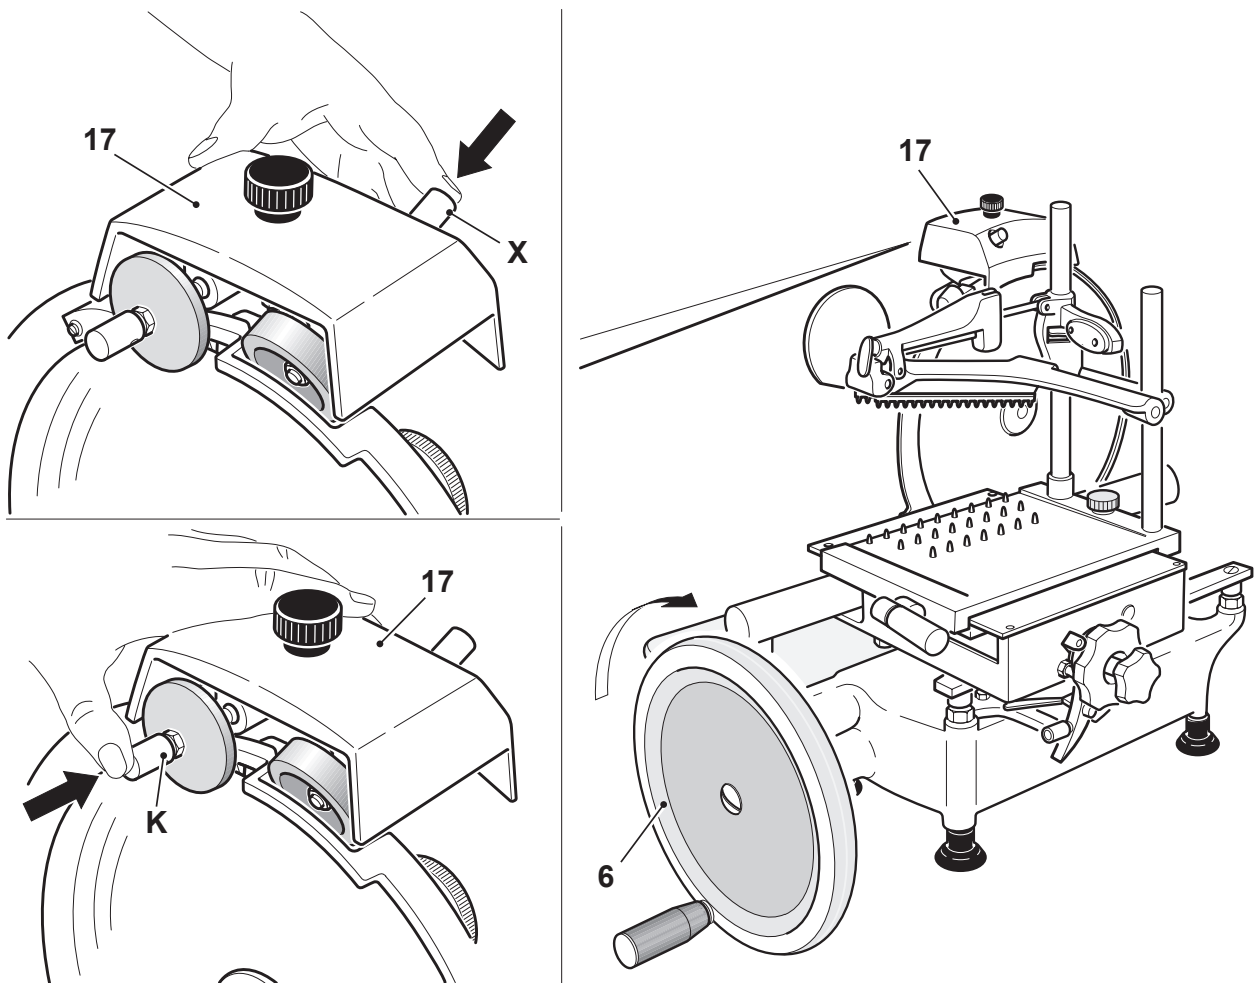

Figure 19-1
11. Turn the flywheel handle (6) clockwise and press the "X" button. Perform about 20 to 30 knife revolutions (Figure 19-1).
12. Stop turning the flywheel handle (6) to stop the knife rotation. Use a pencil to check that a slight burr has formed on the knife edge.
13. Turn the flywheel handle (6) clockwise and press the "K" button.